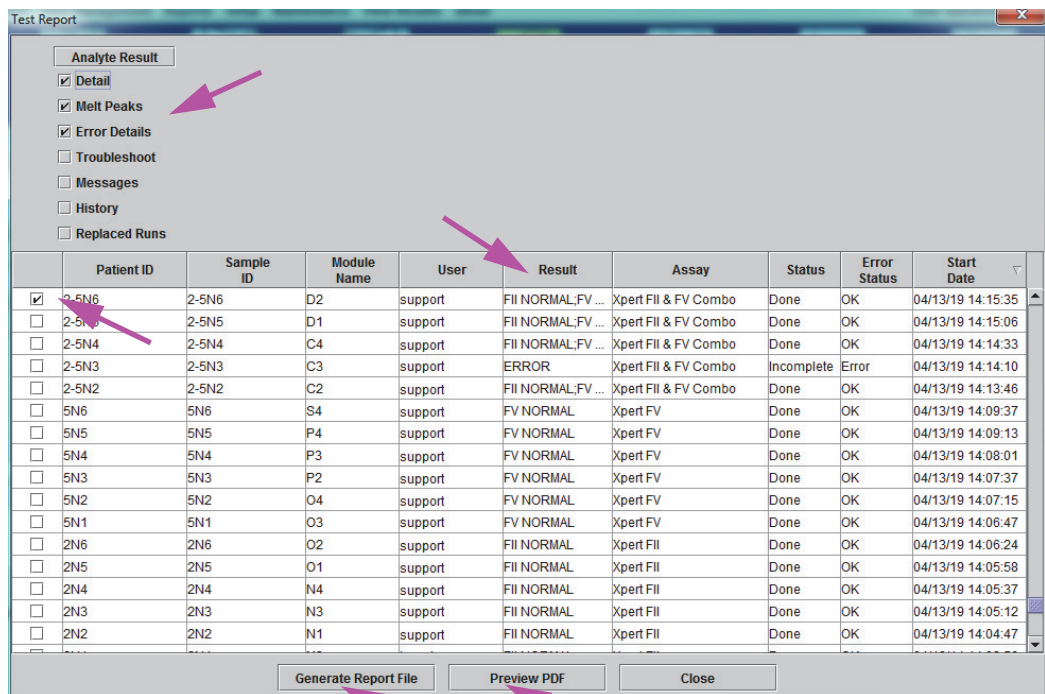

Figure 5-48. Select Test to Be Viewed Dialog
- Click the **Generate Report File** button on Test Report workspace (see Figure 5-48) to create the PDF file of the test report. The Generate Report File dialog box will appear, which enables you to save the file to a specified location. Click **Save** once you have navigated to the specified location.